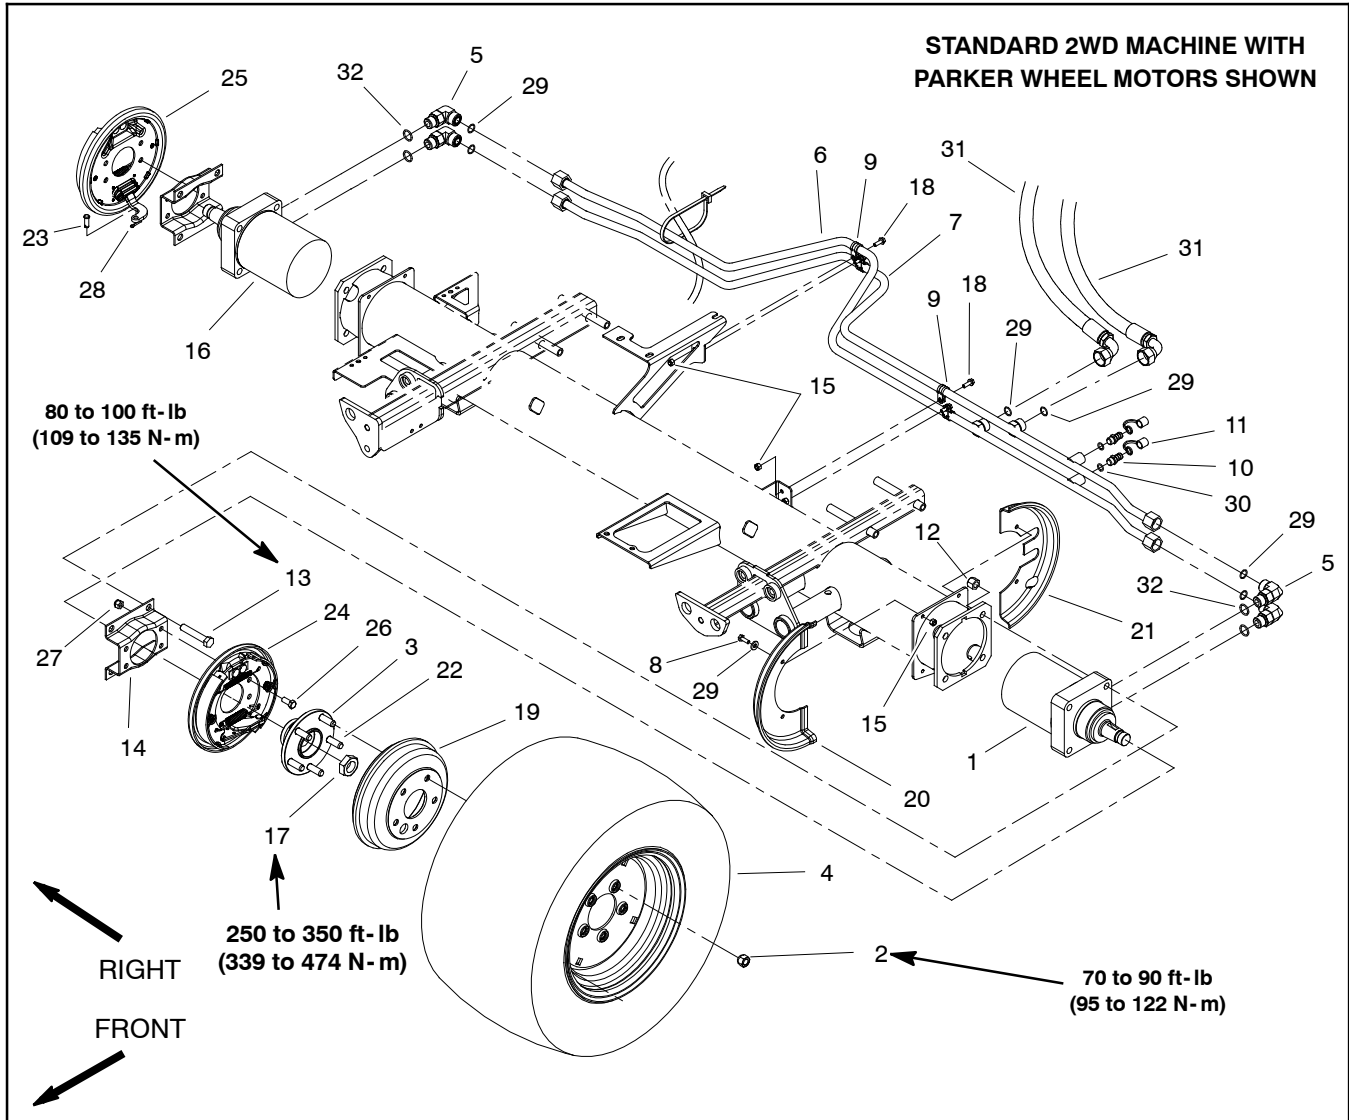
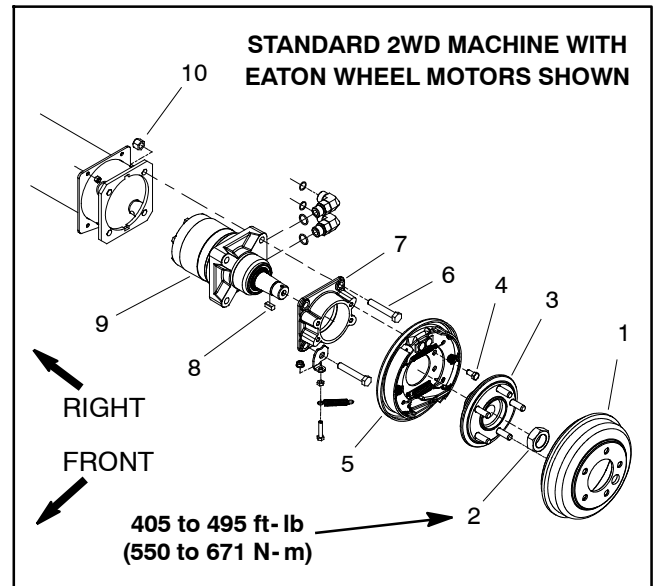

Figure 67
Figure 68
**NOTE:** Machines produced with serial number below 311000600 were produced with Parker brand front wheel motors. Figure 67 shows the front axle assembly with Parker wheel motors. Machines with serial number above 311000600 were produced with Eaton brand front wheel motors. Figure 68 shows the front axle assembly with Eaton wheel motors. If Parker brand wheel motors were replaced for some reason, the replacement wheel motors may have been Eaton brand. Wheel motors have an identification tag on them which identifies the brand. Removal and installation of front wheel motors is very similar regardless of motor brand.
**NOTE:** Clevis pin that secures brake cable to brake actuator lever is secured with cotter pin (shown in Fig. 67) or extension spring (shown in Figs. 68 and 69).
6. Loosen, but do not fully remove, lock nut that secures wheel hub to wheel motor. Loosen lock nut at least two (2) turns.